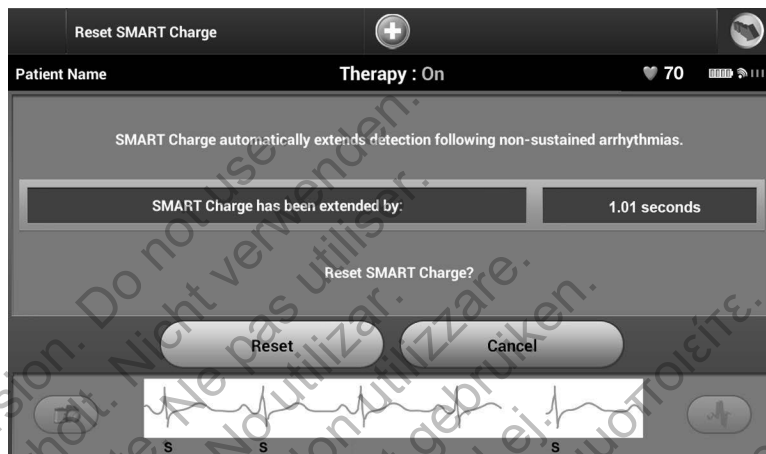

Figure 54: Reset Smart Charge screen
1. From the Utilities screen (accessible from the Main Menu screen), select the Smart Charge button. The Reset Smart Charge screen appears (Figure 54).